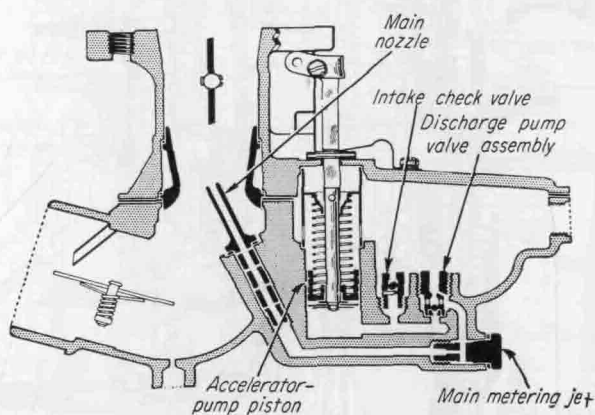

FIG. 5-13. Accelerator-pump circuit in updraft carburetor. (Carter)
5. *Accelerator-pump circuit.* The accelerator-pump circuit for an updraft carburetor is shown in Fig. 5-13. When the throttle is closed, linkage to the accelerator-pump piston lifts it upward. This draws fuel from the float bowl past the intake check valve and into the pump chamber below the piston. Then, when the throttle is opened, the piston moves downward. Pressure on the fuel increases, causing the intake check valve to close and the discharge valve to open. Fuel is discharged past the discharge valve under the pressure of the pump-piston spring. This places the fuel in the line to the main nozzle under pressure so that the main nozzle discharges additional fuel.